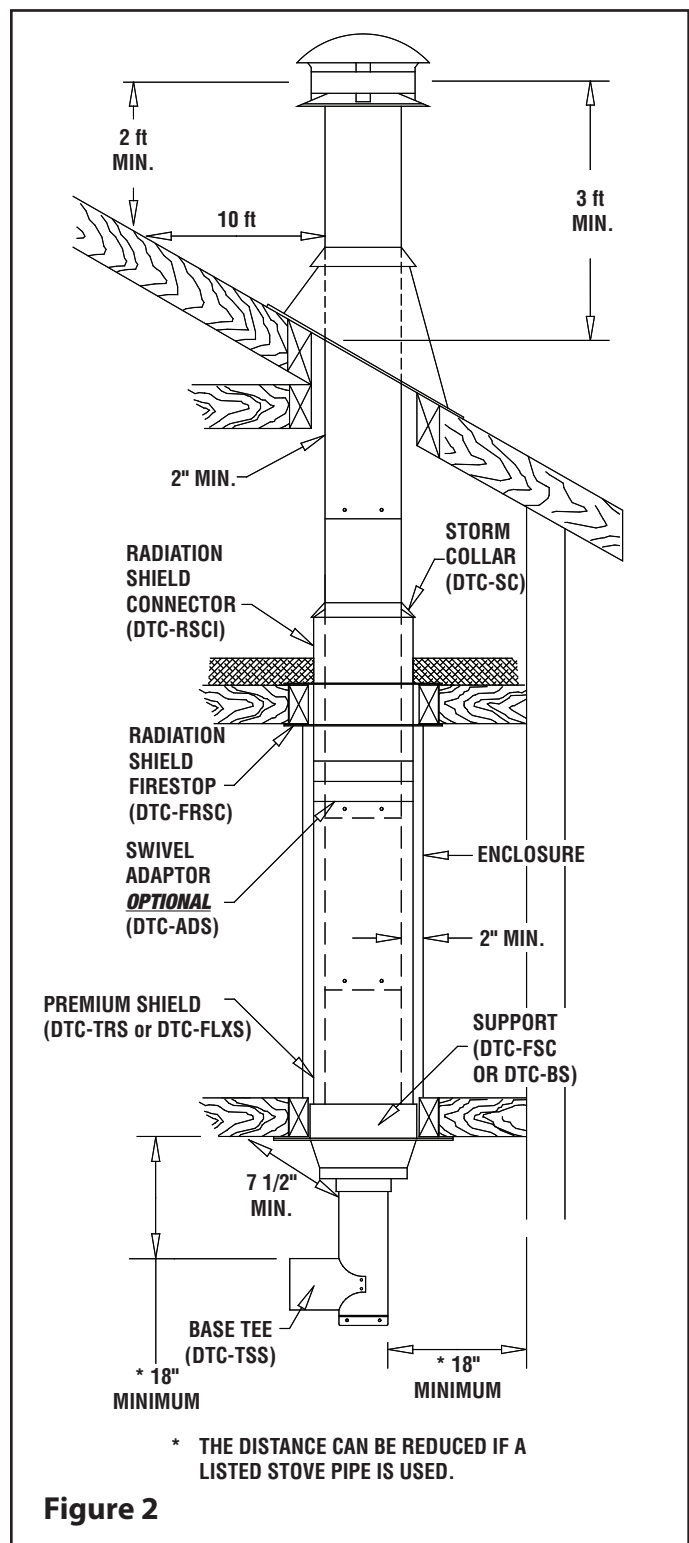

Figure 2
- Portions of the chimney which may extend through accessible spaces shall be enclosed in all cases to avoid personal contact with the chimney and damage to the chimney. When doing so on woodstove or coal application, a telescopic or flexible Premium shield must be installed (**see Figure 2**). Except for installation in single and two-story family dwellings, the enclosure must have a fire resistance rating equal to or greater than that of the floor or roof assemblies through which they pass.